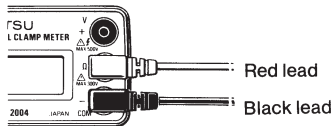

Fig. 9
- (2) Insert the red test lead into the OHM terminal (10) and black test lead into the COM (9) terminal as shown in Fig. 9.
- (3) First, make certain that the display shows overranging with no input connected. With the test leads shorted, make certain that the display reads zero (00.0 ohm). A count of 00.2 ohm or thereabout may sometimes be displayed. This is due to the resistance of the test leads and does not indicate a faulty condition of the instrument.
- (4) Touch the test lead prods to the circuit under test. The resistance measured will be indicated on the display. When the resistance is above 200 ohm an overrange indication will occur.